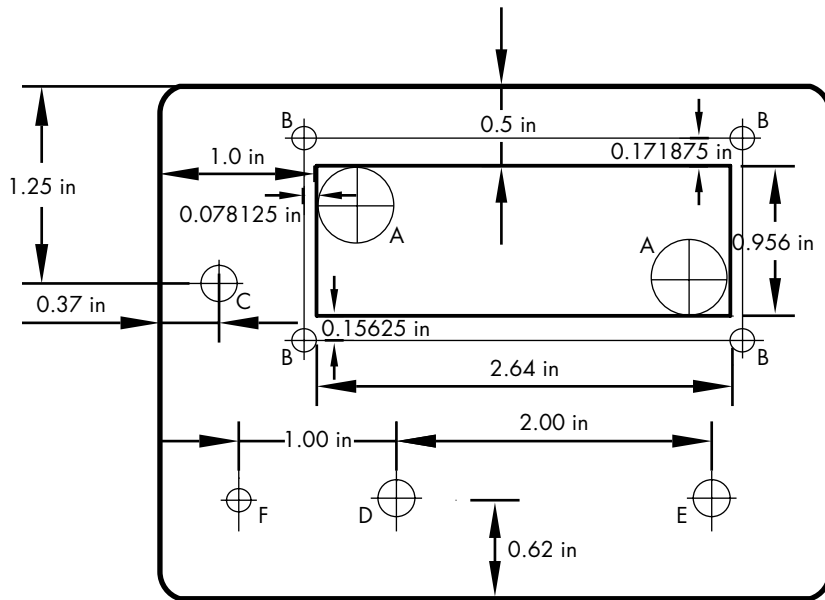
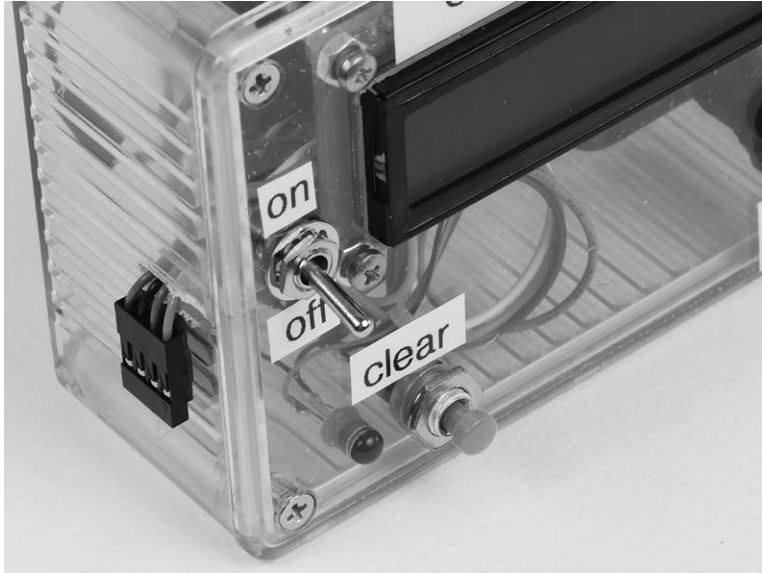

Figure 8-18: The holes and LCD cutout on the cover of the enclosure
Figure 8-19: The four-conductor female connector is mounted to the side of the enclosure using double-sided adhesive.
Figure 8-18 shows the positions for the holes and cutout in the enclosure. You can download a copy of Figure 8-18 from <https://www.nostarch.com/arduinoplayground/> and use it as a template.
1. Prepare the cover of the enclosure, as shown in Figure 8-18, by drilling 1/2-inch holes for cutting out the LCD (A); 1/8-inch holes for mounting the LCD (B); 1/8-inch holes enlarged with a reamer for a tight fit for the 5 mm LED (F); and 1/4-inch holes for the momentary clear switch (D), momentary reset switch (E), and on/off switch (C).
2. Mark the edges of the 1/2-inch holes (A) and connect lines tangent to the holes—you can use a Sharpie marker and clean excess marks later with alcohol.
4. There's a slight protrusion in the middle of the LCD on the right-hand side (facing up). This is part of the backlight assembly. You can cut a hole to accommodate this, as I did on both the Full Ballistic Chronograph and Chronograph Lite, or you can leave the edge straight and use spacers to keep the protrusion from hitting the enclosure. Even though I cut a space for the protrusion, I used a one-nut spacer anyway to space the connections on the top of the screen away from the front of the enclosure (see Figure 8-19).
11. Mount the connector for the sensor channel to the enclosure with double-sided adhesive, as shown in Figure 8-19.